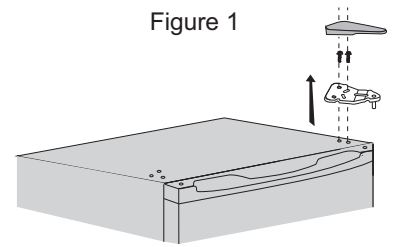

Figure 2
- 2 Remove the upper hinge and hinge cover on the right side of the refrigerator, as shown in Figure 2.